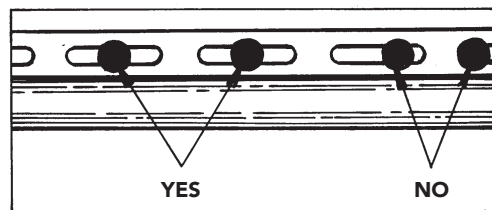

Figure 15
- Center the fasteners in the slots to permit expansion and contraction of the siding (Figure 15).
(See Fastening Procedure and Figure 15.)